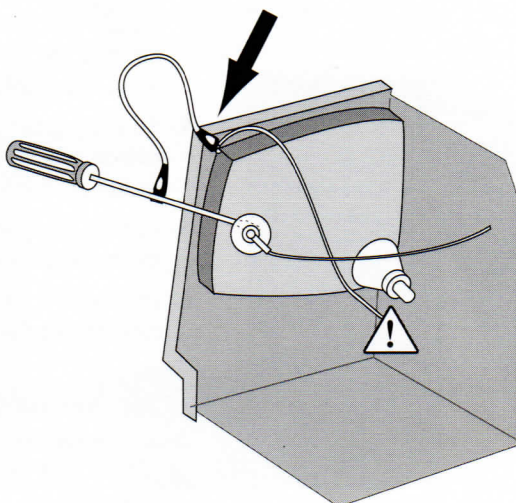

Figure 5 : Discharging the CRT anode
2. Attach the alligator clip of the CRT discharge tool to the metal part of the ground lug exactly as shown in Figure 5. *Do not clip onto the chassis.*